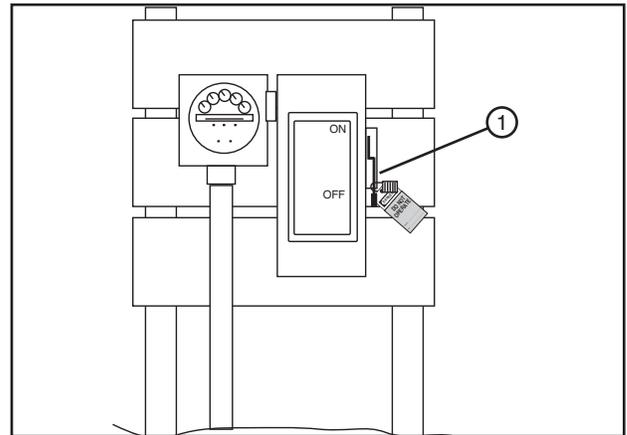

Figure 29-1 1. Public Power Service Disconnect
1. SHUT OFF and LOCK the public power service disconnect to the irrigation machine. FILL OUT the blue (OSHA safety color code) tag and attach to the disconnect after locking. See figure 29-1.